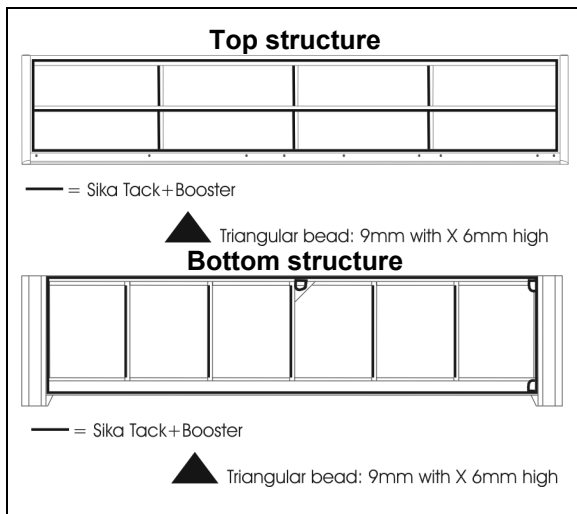
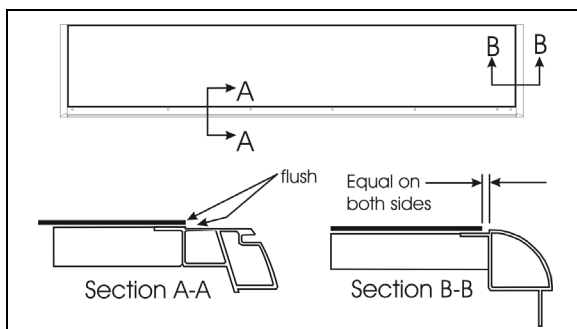
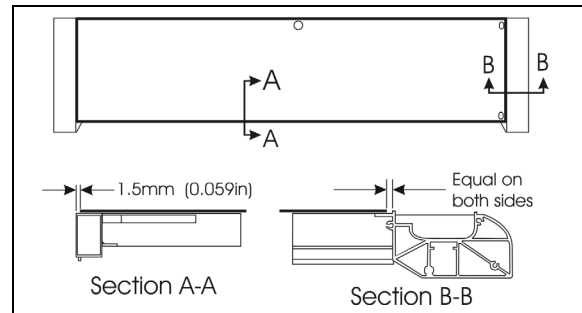

FIGURE 47 : TOP AND BOTTOM PANEL INSTALLATION - SIKA TACK+BOOSTER APPLICATION
FIGURE 48 : TOP PANEL INSTALLATION
FIGURE 49 : BOTTOM PANEL INSTALLATION
4. Apply Sika Tack+Booster (triangular bead: 9mm width X 6mm high) has shown in figure 47 and glue panel in place as shown in FIGURE 48 & FIGURE 49.